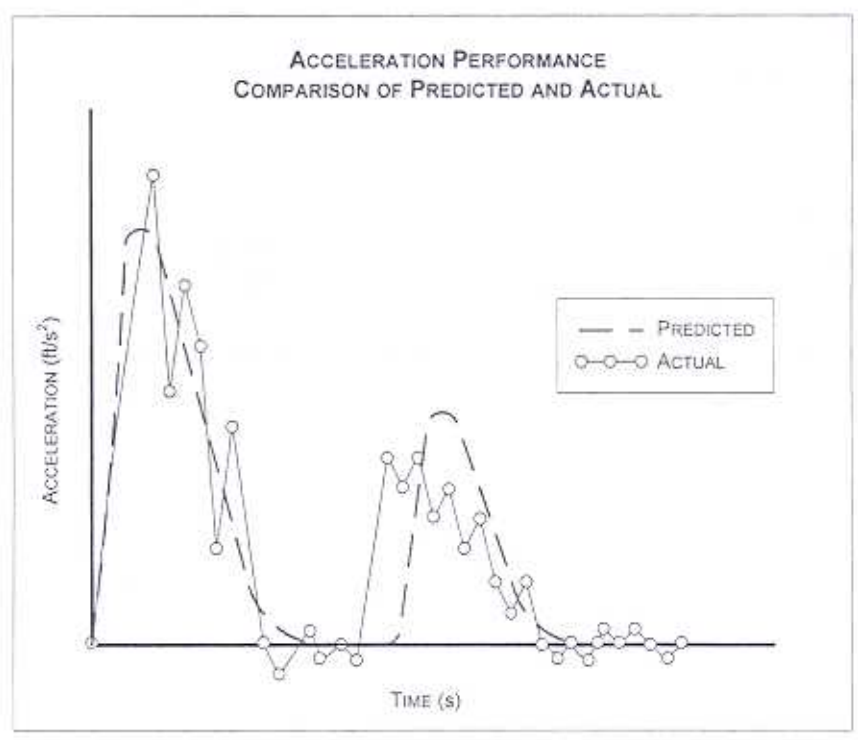

Figure 1 Example of Acceleration Performance Plot
- Plot: "Acceleration Performance Comparison of Predicted and Actual" (Figure 1)